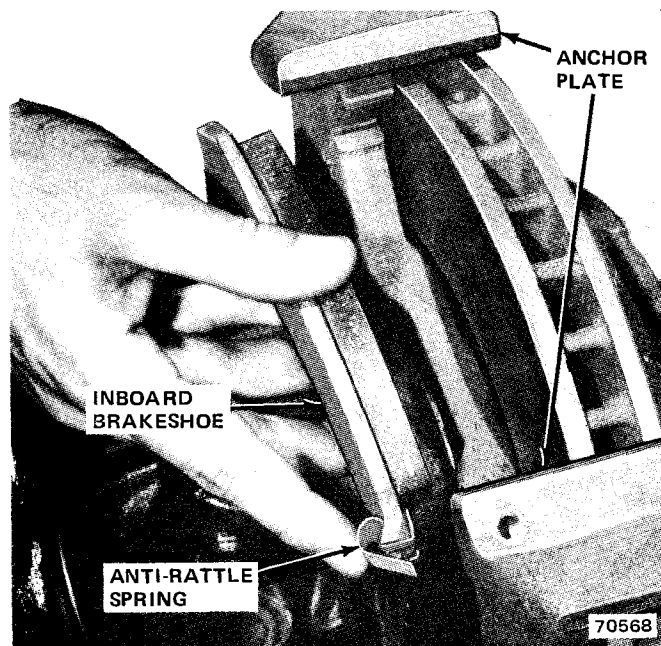

Fig. 2G-46 Inboard Brakeshoe and Anti-Rattle Spring Removal
(11) Remove anti-rattle spring from inboard brakeshoe (fig. 2G-46). Note spring position for assembly reference.
(12) Remove outboard brakeshoe from caliper.
(13) Clean caliper interior using shop cloths only.